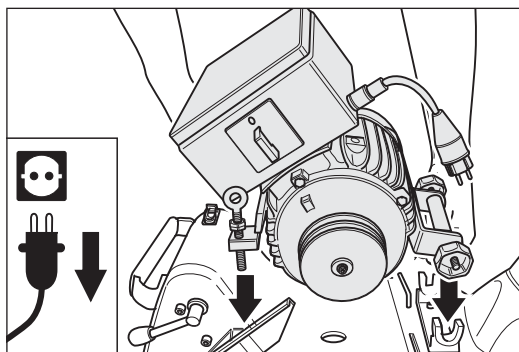
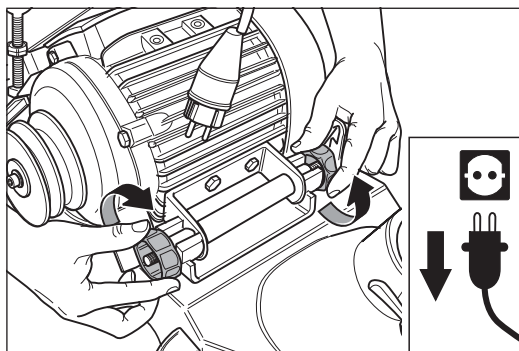

Fig. 53 Place the motor in the motor bearing bracket.
Fig. 54 Tighten the two motor nuts.
- 5 Place the motor in the motor bearing bracket (Fig. 53) and tighten the two motor nuts slightly (Fig. 54).
- 7 Tighten the two motor nuts (Fig. 54).